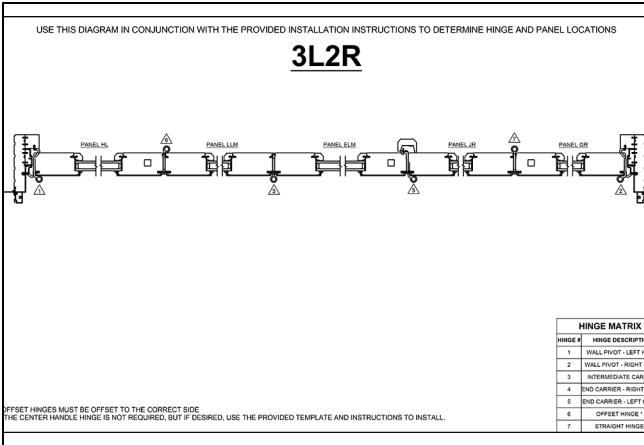

Figure 56
1. Panels are lettered according to configuration. Refer to the diagram enclosed similar to Figure 56.